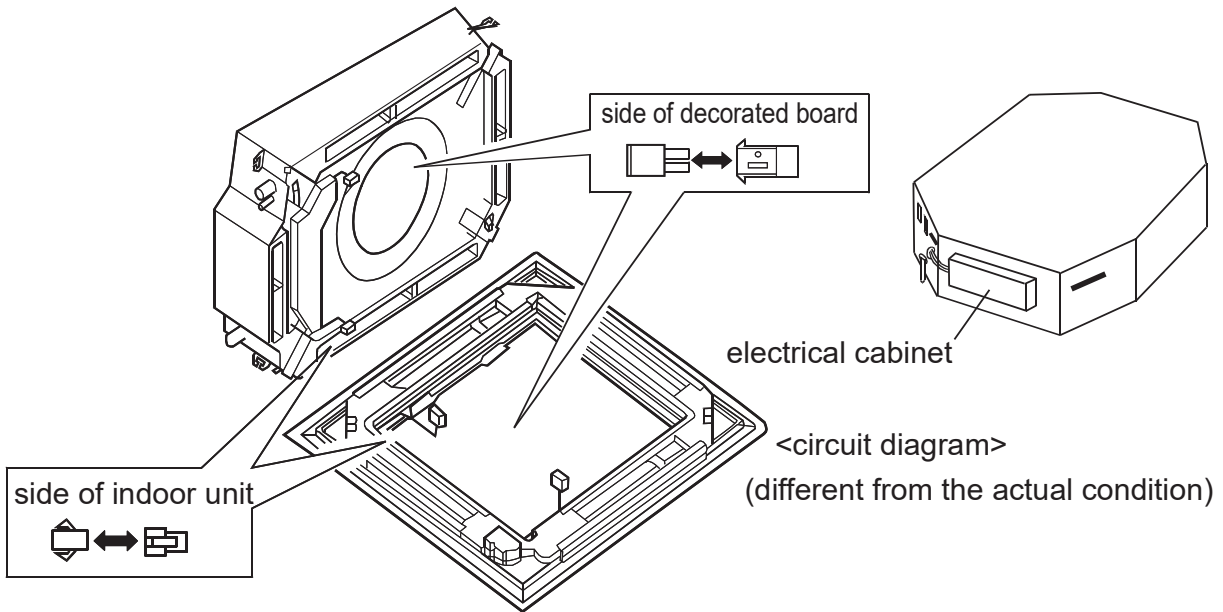

Fig.3
- a. Connect it to the connector of the wind deflector motor lead on the decorated board (Fig. 3);